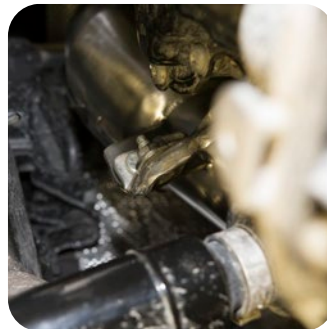

FIG. 25
- 25** Install the upper downpipe cat section on the car from underneath, align the 2 studs from the engine bracket into their specific slots on the downpipe bracket and make sure to mate the upper v-band flange to the turbo-charger and install the v-band clamp loosely. (See Fig. 25)